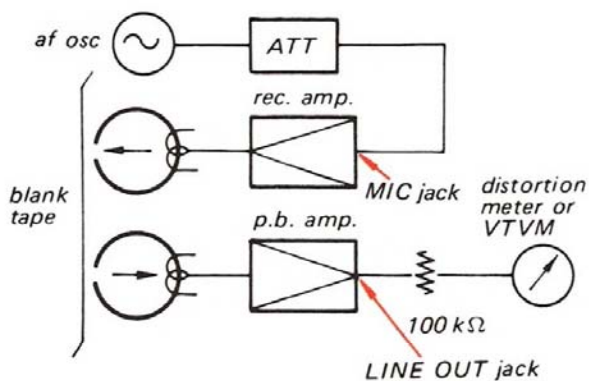

Fig. 3-2-13. Test setup for the items 11, 12, 13, 14 and 15
- Step 2. Thread a blank tape, place the set in RECORD mode, deliver a 1 kHz signal of -90 dB (0.0245 mV) to the MIC jack and memorize the VTVM reading. (See Fig. 3-2-13.)
- Step 2. Thread the SONY tape "super 150" (SONY SLH tape), place the set in RECORD mode, deliver a 1 kHz signal of -90 dB (0.0245 mV) to the MIC jack and memorize the VTVM reading. (See Fig. 3-2-13.)
- Step 2. Thread a blank tape and place the set in RECORD mode, deliver a 1 kHz signal of -60 dB (0.775 mV) to the MIC jack and adjust the R120 (R220) to obtain 0 dB (0.775 V) on the VTVM. (See Fig. 3-2-13 and 3-2-14.)
- Step 2. Place the set in RECORD mode, deliver a 1 kHz signal of -60 dB (0.775 mV) to the MIC jack and record the signal on a blank tape "SONY super 150" (completely erased). (See Fig. 3-2-13.) Memorize the LINE output level.